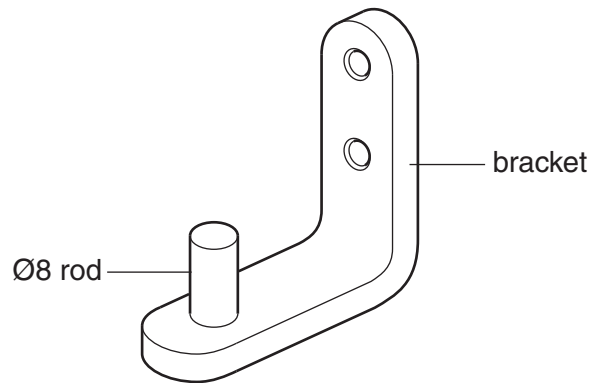

Fig. 3
- 4 Fig. 3 shows a metal hinge bracket.